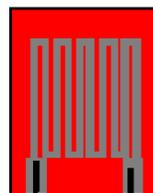

Figure B-1.
*Strain Gauges:* A strain gauge measures the displacement of a surface when it is subjected to stress. The gauge is mounted securely to a surface (usually with super glue). When the surface stretches because of an external force, the strain gauge also stretches. The conductors of the strain gauge are either stretched or compressed strained. This results in a small change in the strain gauge resistance. In our case, the change in resistance of the strain gauge will give a signal proportional to the displacement at the end of the beam. Figure B-1 shows a typical strain gauge. National Instruments has a very good discussion of stain gauges and our application at: